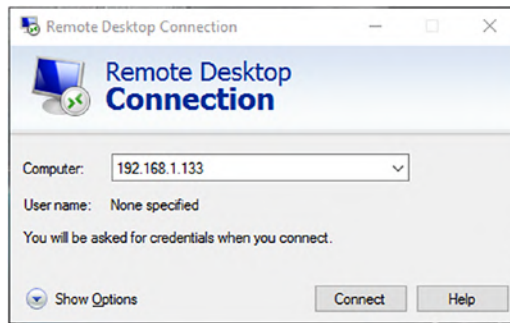

Figure 2-10. Windows Remote Desktop Connection
6. On your laptop, open Remote Desktop Connection. This displays the connection dialog box, as shown in Figure 2-10.